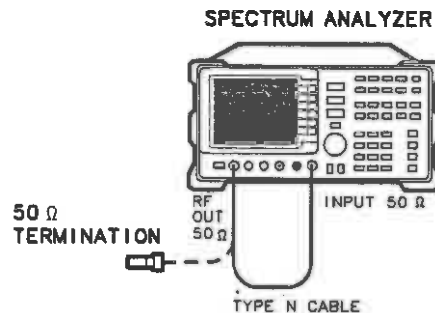

Figure 3-27. Maximum Leveled Output Power Test Setup
1. Connect the Type N cable between the spectrum analyzer's RF OUT 50 $\Omega$  and INPUT 50 $\Omega$  connectors. See Figure 3-27.
5. Remove the Type N cable from the RF OUT 50Ω and connect the 50Ω termination to the RF OUT 50Ω. See Figure 3-27.